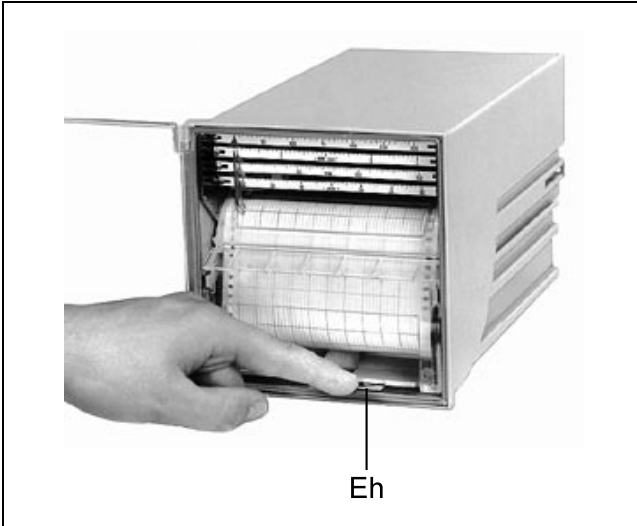

Fig. 5 Unlocking the chart unit
1. Unlock chart unit: Press unlocking lever *Eh* (see fig 5). Chart unit swings forwards. Remove chart unit in the direction of the arrow.
1. Unlock chart unit: Press unlocking lever (see fig. 5). Chart unit swings forwards. Remove chart unit in the direction of the arrow.